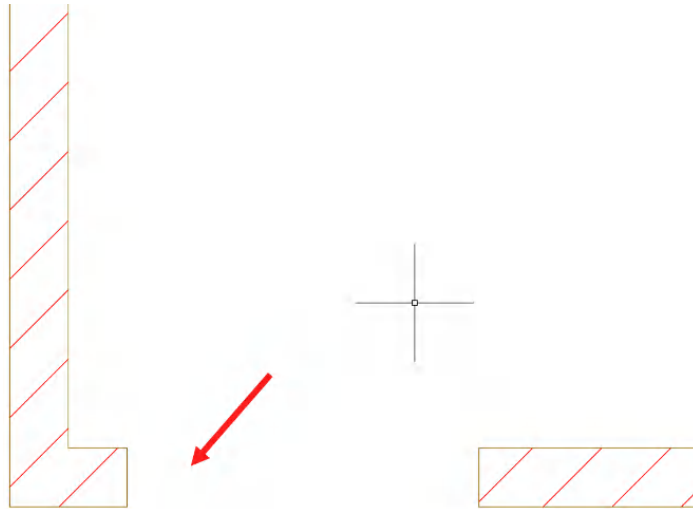

Figure 11.29: The door opening after the block is erased
2. Select the door block and right-click. On the shortcut menu, click on **Erase** to remove the block instance. You should now only have the door opening remaining, as shown in *Figure 11.29*.